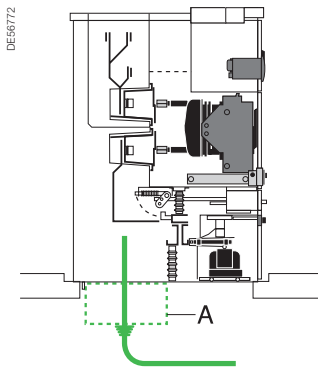

Figure 2
- For reconstructed cables of length exceeding 460 mm, provide for the installation of an additional compartment under the cubicle (refer A, Figure 2).